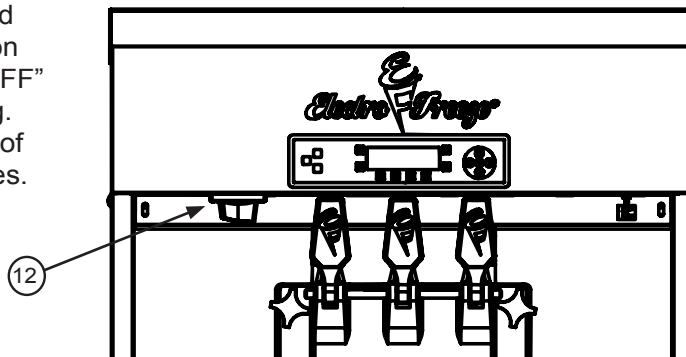

Figure 5-3
12. Power Switch See Figure 5-3